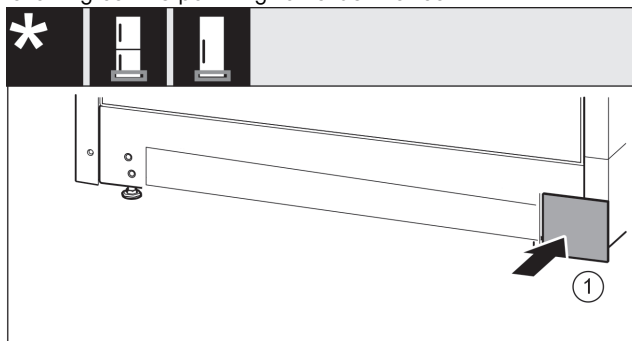

Fig. 39
- ▶ Re-attach the cover *Fig. 39 (1)* to the other side.